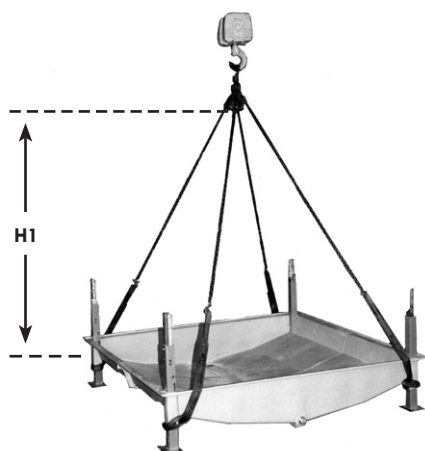

Figure 1. Lifting basin section
2. **Figures 1 and 2** show the proper rigging of the sections for units that ship in two sections. Position the lower section on the steel support and bolt in place.